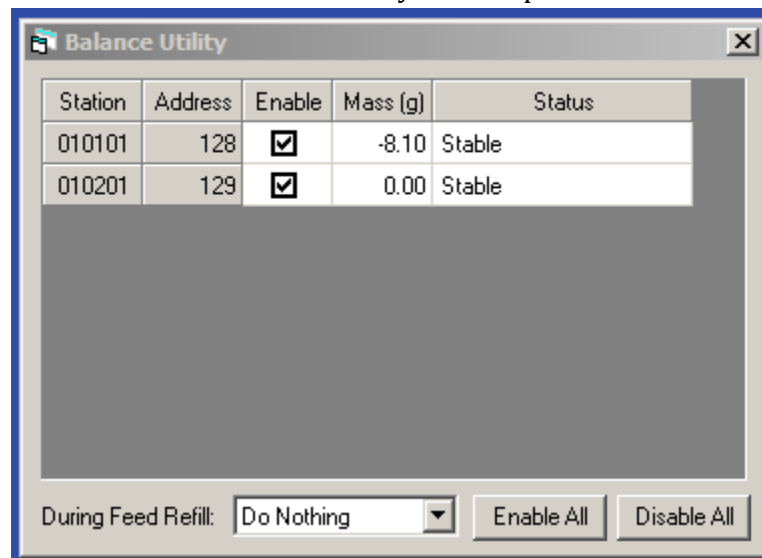

Figure 48 - Balance Utility
1. Click “Experiment >> Refill Feeders” to open the Balance Utility shown in Figure 48. This utility can also be accessed before an experiment configuration has been loaded under the “Tools > Utilities > Balance Utility” menu option.